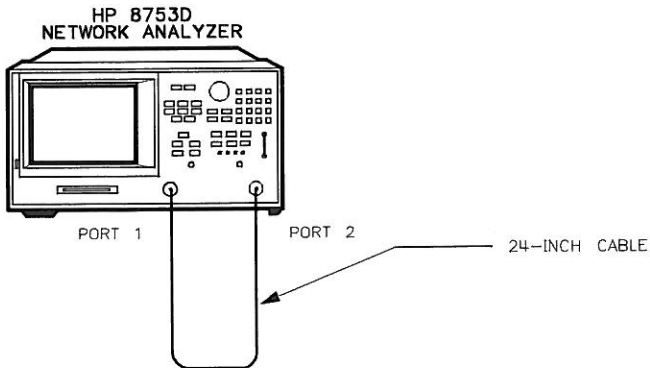

Figure 1-21. Setup for Checking the R Sampler (A4)
4. Connect the equipment as shown in Figure 1-21.